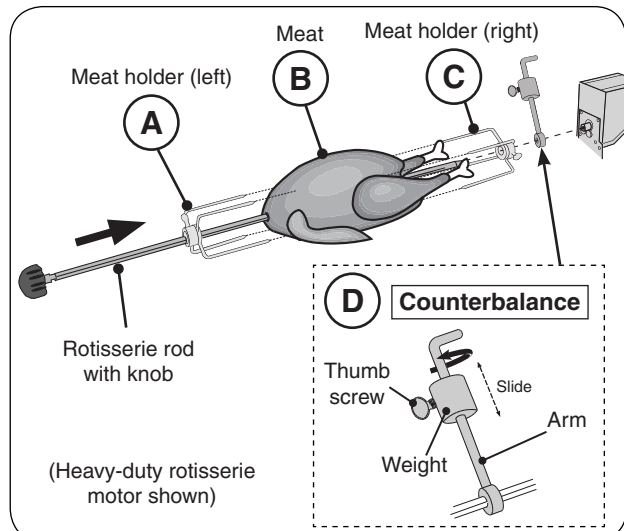

Fig. 26-3 Assemble rotisserie rod for cooking
4. Slide the left meat holder onto the rod and tighten (see Fig. 26-3, A).
5. Then slide meat onto the rod, followed by the right meat holder (see Fig. 26-3, B and C).
8. The counterbalance may then be attached to even weight distribution. Slide the counterbalance onto the rod next to the right meat holder (see Fig. 26-3, D). Loosen the arm and point it upward opposite the heavy side of the meat. Tighten the arm.
9. Slide the counterbalance weight up or down the arm until the rod rotates most evenly then tighten thumb screw (see Fig. 26-3, D).